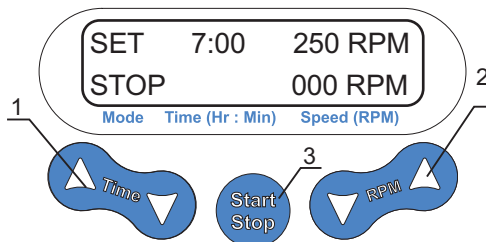

Fig.1 Control panel
- 4.3 With the help of “▲” and “▼” **TIME** keys (Fig. 1/1) set the required working time interval in hours and minutes (increment - 1 min). If the key is pressed for longer time the increment becomes bigger. The set time is displayed in the first line of the display.
- 4.4 With the help of “▲” and “▼” **RPM** keys (Fig. 1/2) set the required shaking intensity in revolutions per minute (increment 10 RPM). If the key is pressed for longer time the increment becomes bigger. The set speed is displayed in the first line of the display.
- 4.5 Press the **StartStop** key (Fig. 1/3). The platform will start rotation and the timer indicator will start counting up the time interval in the lower line of the display.